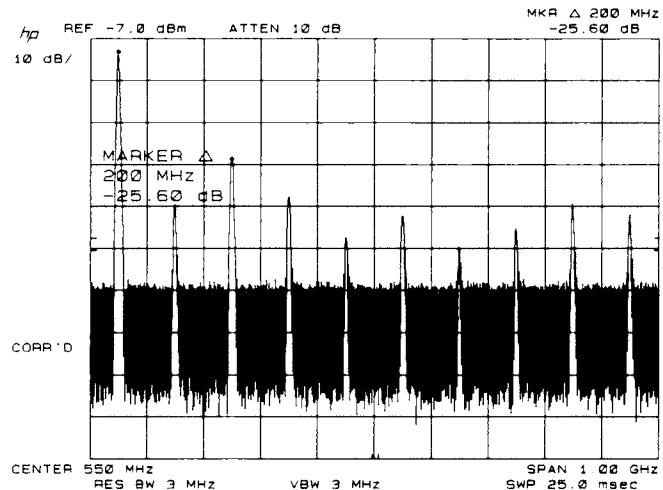

Figure 3-86. CAL OUTPUT Harmonics
10. On the second spectrum analyzer, press MARKER **(PEAK SEARCH)**, **(Δ)** to position a marker on the peak of the displayed 100 MHz signal. Then, press the **(⇧)** key (or turn the DATA knob) to position the second marker on the peak of each displayed harmonic of the 100 MHz signal in succession, and verify that the level of each harmonic is greater than 25 dB down relative to the peak of the 100 MHz CAL OUTPUT signal. See Figure 3-86.